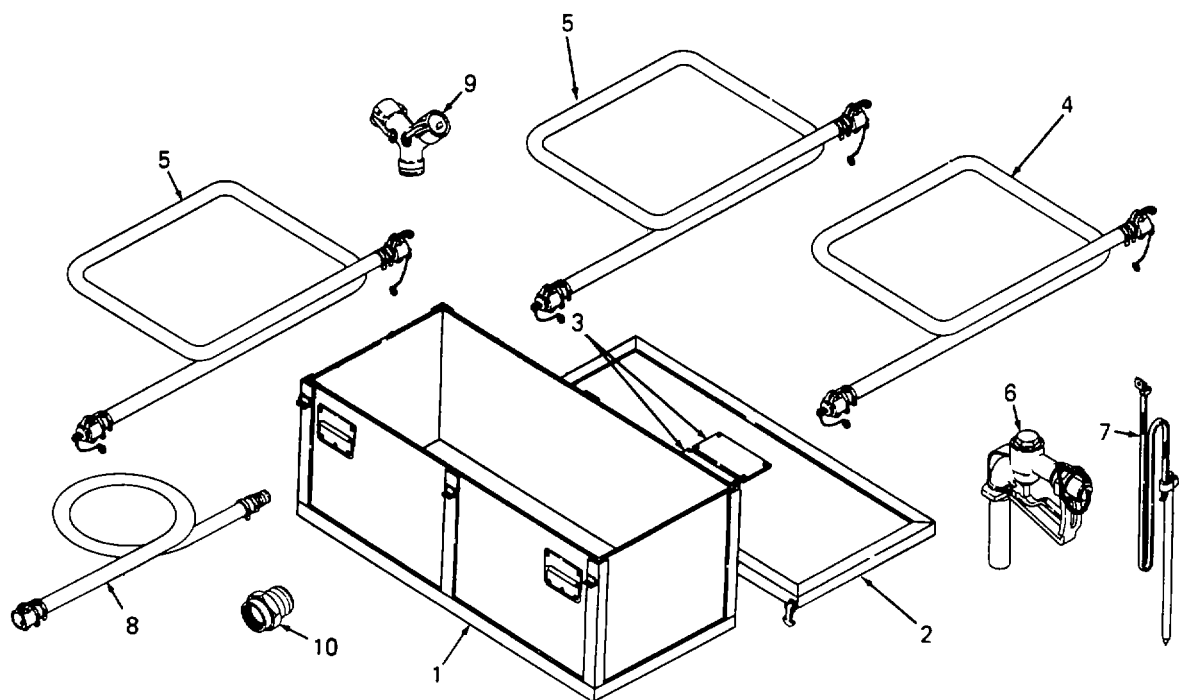

Figure 1-4. Storage Chest 2 and Related Pump Accessories
- (5) Suction Hose Assembly (one each)
- (6) Nozzle Assembly (one each)
- (7) Drum Suction Stub Unloader Assembly (less 10 feet long hose assembly) (one each)
- (8) Hose Assembly (10 feet long) (part of drum suction stub unloader assembly) (one each)
- (9) Double Male Y-Connector (one each)
- (10) Female QD Coupling (one each)
- (11) Coupling Gasket (Installed in female QD coupling) (one each)
d. Storage Chest 2 and Related Pump Accessories (See Figure 1-4).
- (1) Storage Chest 2 Bottom (one each)
- (2) Storage Chest 2 Top (1 each)
- (3) Storage Chest 2 Information Plate (one each)
- (4) Discharge Hose Assembly (one each)
- (5) Suction Hose Assembly (two each)
- (7) Ground Rod With Attachments (one each)
- (9) Double Female Y-Connector (one each)
- (10) Male QD Coupling (one each)